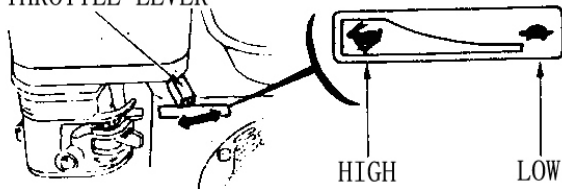

Fig. 9
(4) Move throttle lever to left side. See figure 9